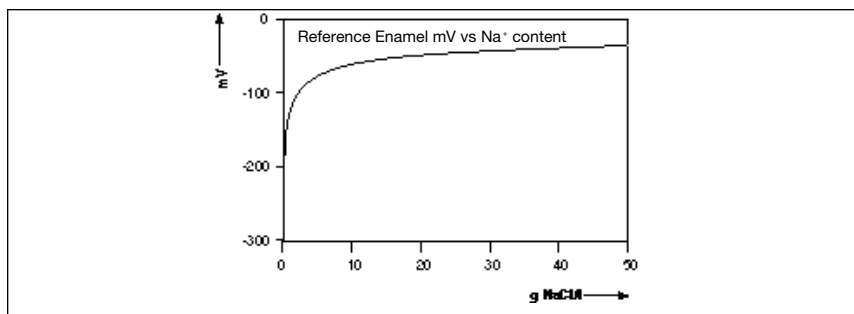

Fig. 4
- Fig. 4 A plot of reference voltage against Sodium content.
The revolutionary measuring principle has some big advantages. The absence of filling solutions and reference junctions virtually eliminates the problems caused by aging and pollution of the reference sensor. Regular cleaning of the sensor virtually eliminates drift, and the sensor benefits from a very long working life. It is vital, however, to fit the sensor to the application correctly. The special nature of the reference element dictates that there must be a certain Sodium level in the process. Fig. 4 shows a plot of reference voltage against Sodium content.